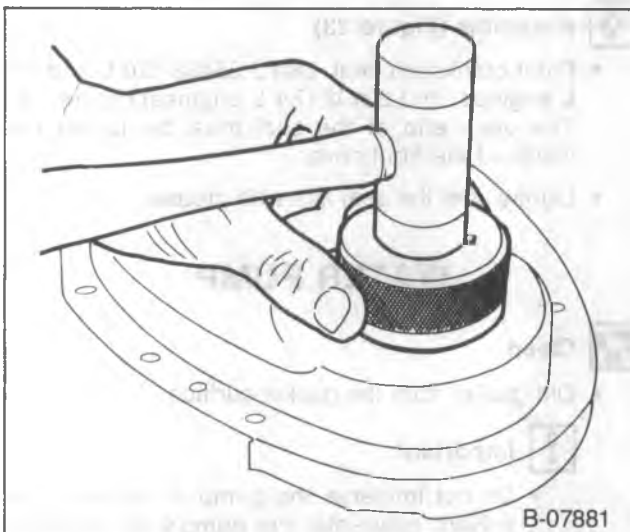

Figure 33—Installing the Front Crankshaft Seal (Typical)
Assemble (Figure 33)
- Front crankshaft seal. Use J 35468 (5.0 L and 5.7 L engines) or J 22102 (7.4 L engines) (figure 33). The open end of the seal must be facing the inside of the front cover.